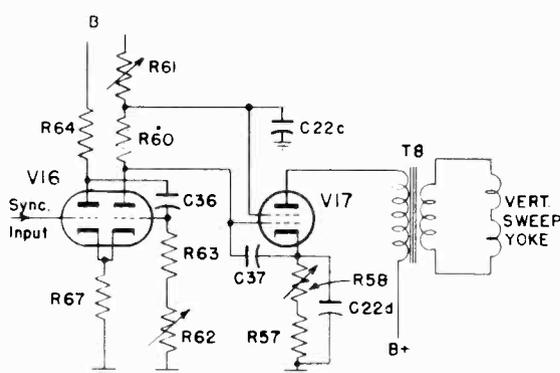

Fig. 7. Vertical Sweep Output
7. VERTICAL MULTIVIBRATOR AND SWEEP OUTPUT (See Figure 7)—